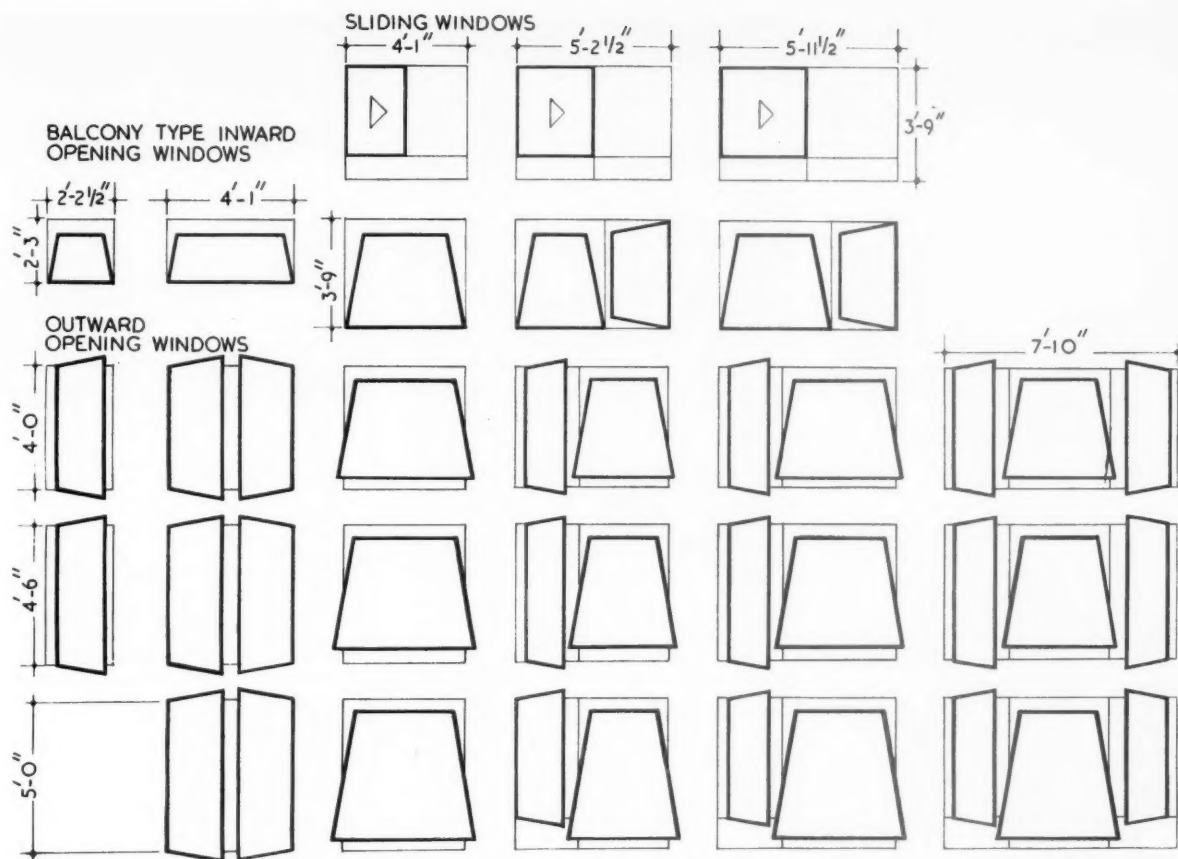

Fig. 8. A selection from the standard range of wooden windows
**Wooden Windows.** A standard range of wooden windows for use in blocks of flats and maisonettes was introduced in 1951, based on E.J.M.A. timber economy sections (Fig. 8). After the end of timber licensing the sections were increased (Fig. 7).